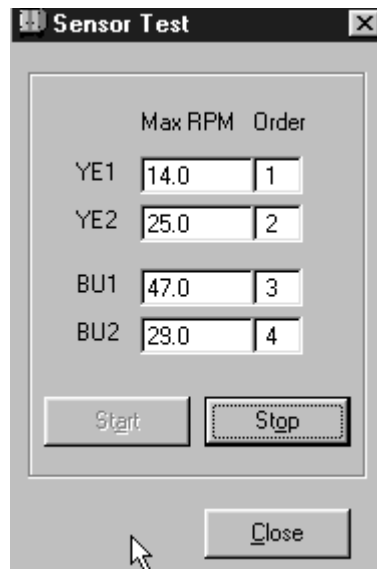

Figure 2-26: Sensor Test
7. Check the screen for sensor output. See Figure 2-26.
8. Check **Order** fields to verify sensors were installed in the right location based on orientation of the valves or run a sensor orientation test. See Figures 2-26 and 2-27.